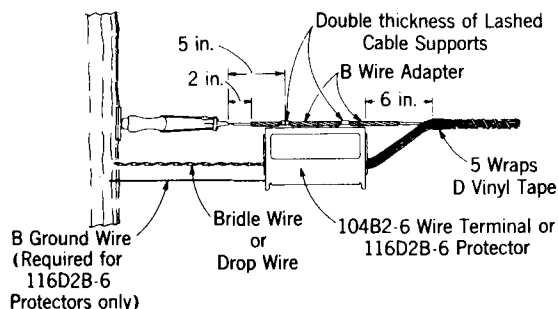
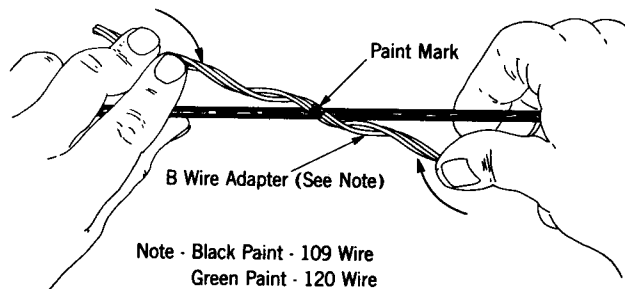

Fig. 7 - Multiple Line Wire Deadend
Fig. 9 – Installation of B Wire Adapter
3.01 The 104B2-6 Wire Terminal or 116D2B-6 Protector can be placed on the insulated support wire. At deadend poles, this can be accomplished by using two B Wire Adapters and two lashed cable supports as shown in Fig. 7 and described in 3.03.
(1) Place the 3-wire set first, starting at the center which is marked by paint, as shown in Fig. 9. Place the 3-wire set (gauge by eye) on the support wire so that it is centered at the terminal clamp nearest the pole (see Fig. 7). Wrap the set so it is spiraled around the support wire from the center out to the ends in each direction at once using the
(b) Start the second B Wire Adapter on the support wire with the paint mark about 3 inches from the end of the first B Wire Adapter so that it is centered at the far terminal clamp. (See Fig. 7.)